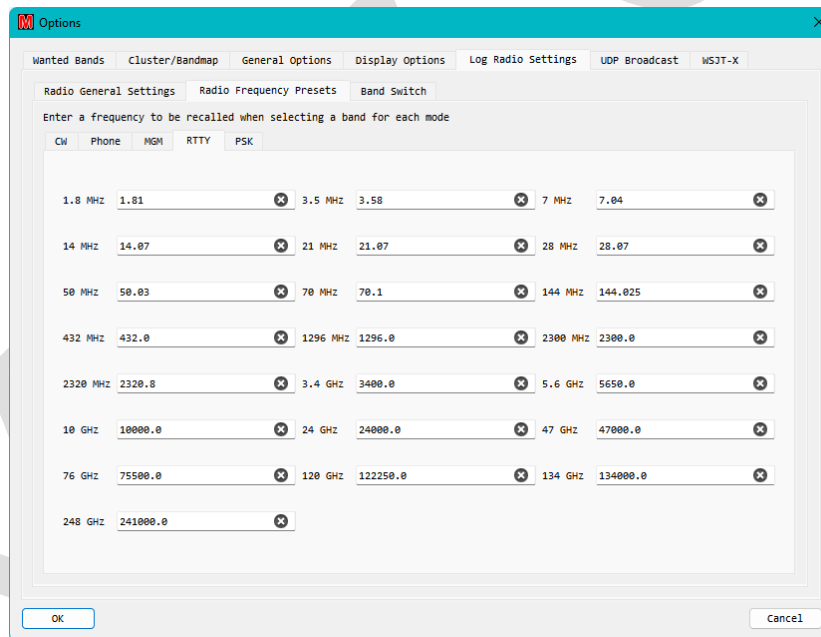
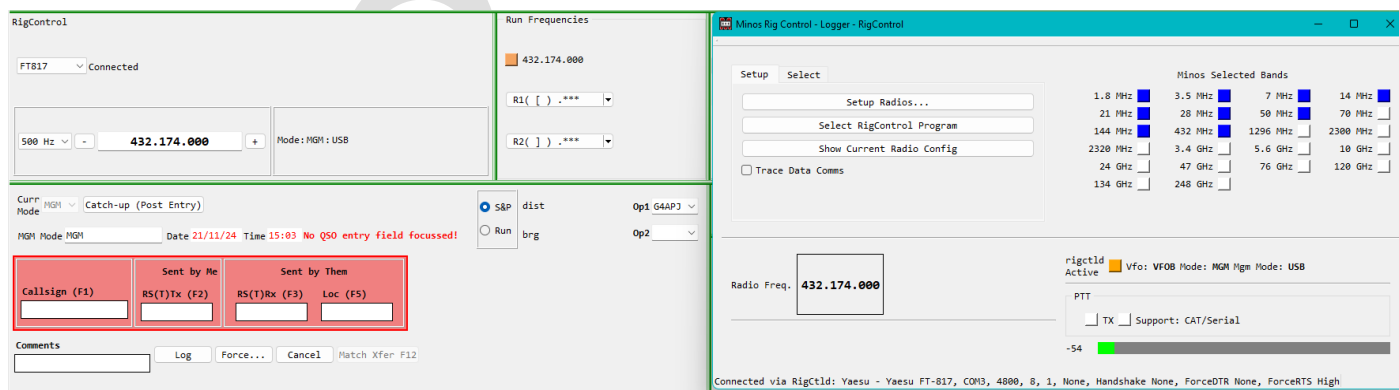
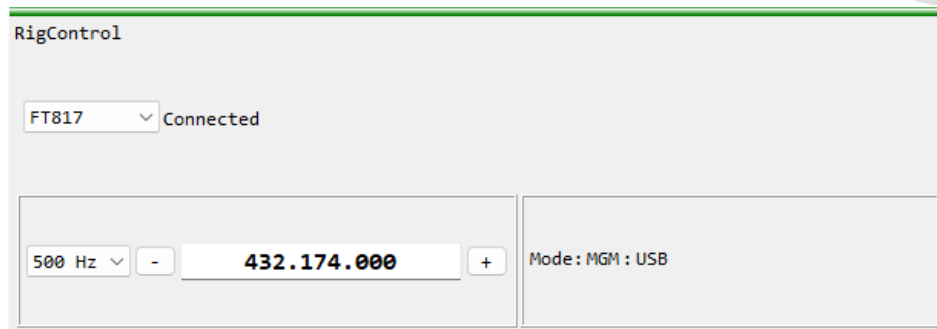

Figure 94 – Setup Band Frequency
Figure 98 – RigControl connected to Logger
Figure 101 – RigControl panel within Logger
- The **‘Radio Frequency Presets’** tab (Figure 94) displays the table of ‘base frequencies’ with a tab for each mode of CW/Phone/MGM. These define the frequency the rig goes to when a contest is opened or when a **“Quick Sel”** band change is made from the Rigcontrol panel of the Logger (Figure 98). The default frequencies are chosen to avoid such things as calling channels. This option allows you to change the start frequency to your favourite start frequency on a band⁸⁰. Minos must be restarted for any changes to take effect.
Once configured to operate in conjunction with the Logger a contest may utilise the rig selected within the application, and by default the RigControl panel becomes visible in Logger (Figure 98). As can be seen, because the application is connected to the Logger, it shows ‘Logger’ in the title, together with the name assigned to the instance of the app being used they are using (RigControl, by default).
Within the RigControl panel (see Figure 101) on the top left is the name of the selected radio and its status which should normally be ‘**Connected**’ for correct operation⁸³.
If the selected radio supports RIT (through CAT) it can be enabled through the RigControl panel (see Figure 101) and it will then become visible in the RigControl panel within Logger (see Figure 18). **Turning it on (Figure 98)** then allows incremental tuning using the mouse wheel in the same manner as for the main frequency. A specific RIT frequency can also be entered, although that is unlikely to be very useful. There are a number of shortcut keystrokes available - listed in Figure 205.